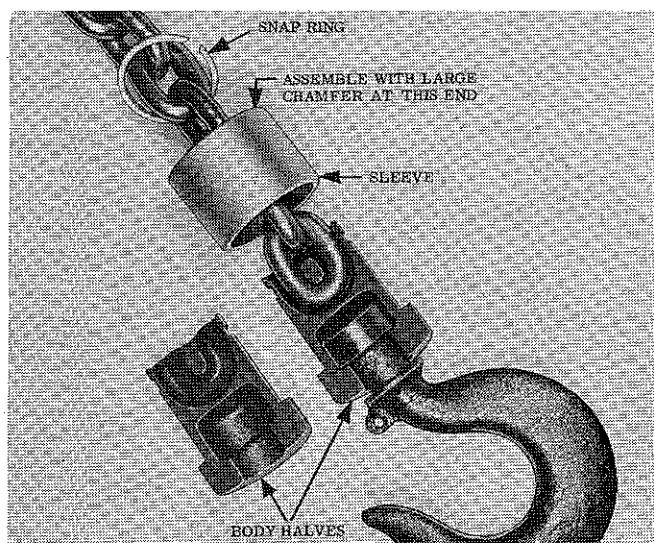
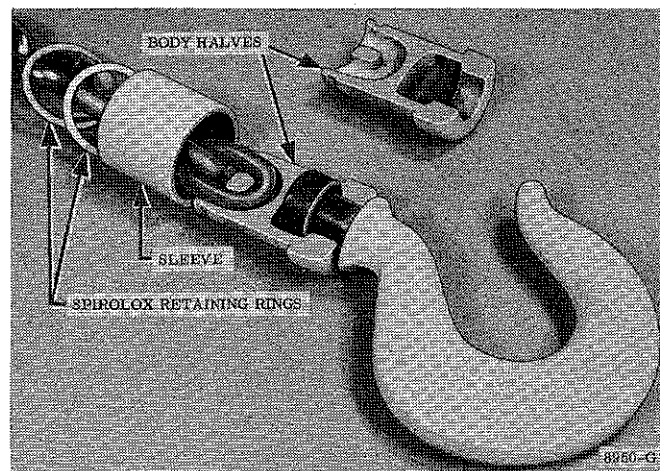
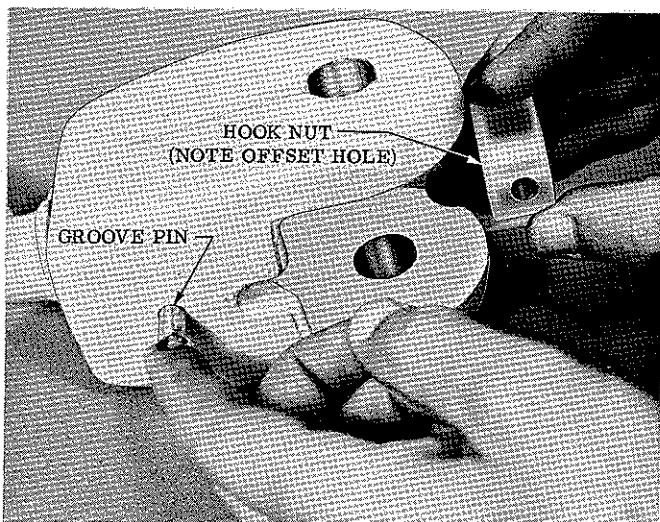

Figure 6-1. Lower Hook Connection - Current 1-1/2 Ton Model Hoists
Figure 6-2. Lower Hook Connection - Early 1-1/2 Ton Model Hoists
Figure 6-12. Installing Hook and Nut in Lower Block
a. Remove hook from end of load chain. Remove snap ring at top of sleeve, slide sleeve from body halves and separate parts. See Figure 6-1. Early models have two Spirolox retaining rings holding lower block sleeve. See Figure 6-2. To remove, carefully unwind rings using knife blade or other suitable tool.
6-14. ASSEMBLY OF LOWER BLOCK. When installing lower hook on 3 ton model, be certain original nut is used. Also, nut must be positioned as shown in Figure 6-12. The nut side with the greater distance to center of hole should face the hook. When installing sleeve on 1-1/2 ton model, be certain large chamfer in one end is positioned as noted in Figure 6-1.